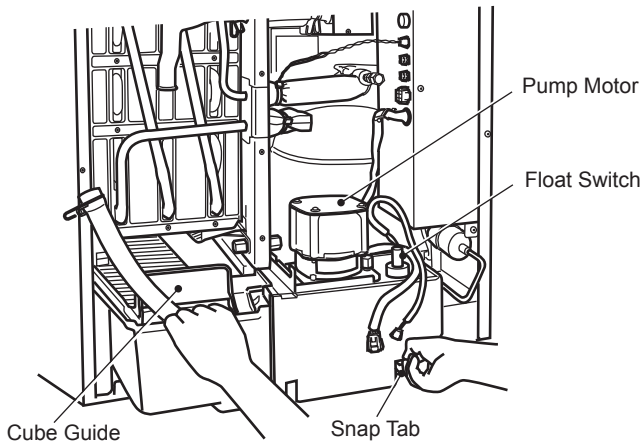

Fig. 3
- 5) While pushing up the snap tab at the right side of the pump motor bracket, pull out the water tank, cube guide, pump motor bracket, pump motor and float switch together. See Fig. 3.